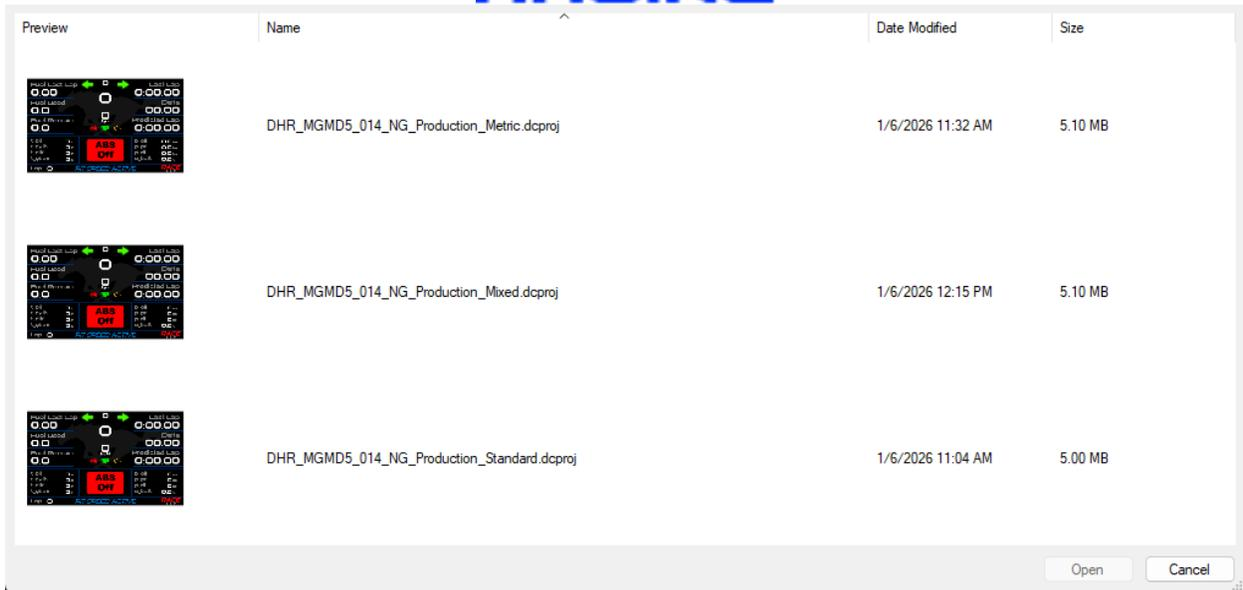

Figure 6: Display Creator – project selection window.
4. Select the desired display file and click “Open”. It should be one of the three options from Table 1 and should appear in the pop-up window displayed in Figure 6.